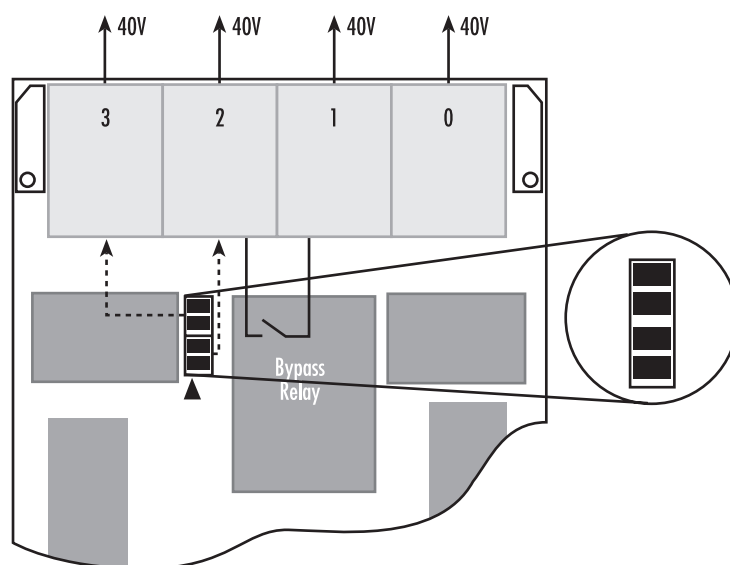

Figure 23. All eight jumper pins bridged
- All eight jumper pins bridged: this setting is used with all four ports configured in *NET* mode and connected to line powered terminals as shown in figure 23 on page 43.